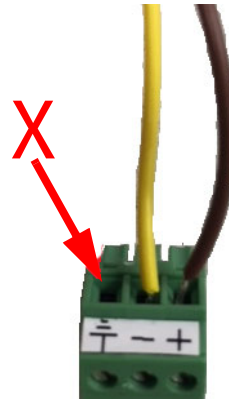

Figure 5-25 DO NOT connect to the ground connection
4. Connect the receiving wires to the terminals according to their labeling (positive and ground) (Figure 5-25).
If your analog signal line has a drain DO NOT connect that to the ground connection of the 308 Analog Output card (Figure 5-25). It can become a source to inject noise into the circuit.